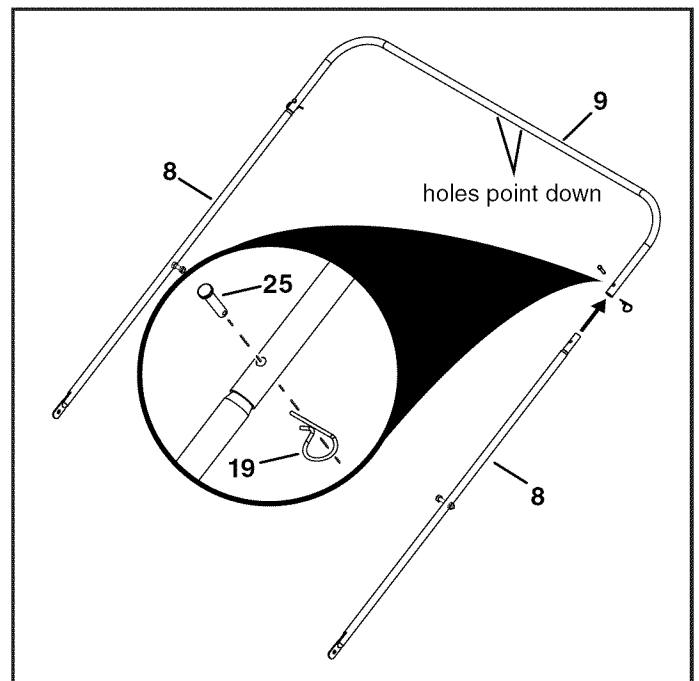

FIGURE 8
STEP 8: (SEE FIGURE 8)
- Install a rear hopper tube (9) onto the ends of the two upper hopper tubes (8). Secure them with two 1/4 x 1.11" clevis pins (25) and small hairpin cotters (19).